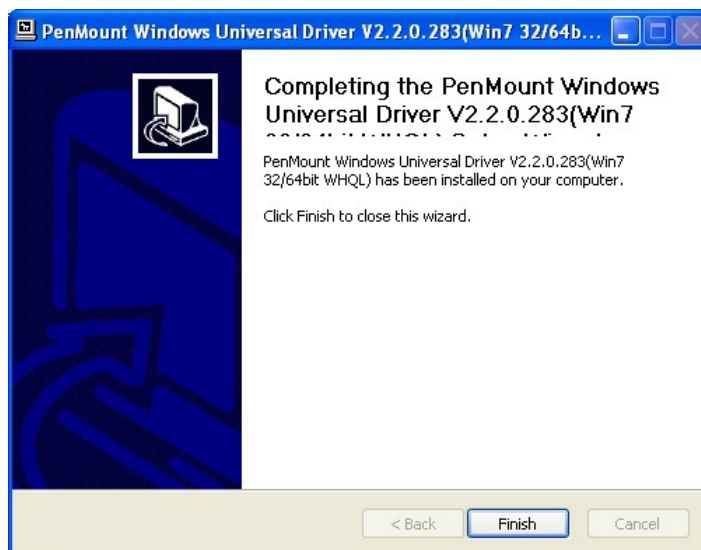

Figure 5-6: Finish Installation
Step 10: When the installation is complete, the complete screen appears. See **Figure 5-6**.